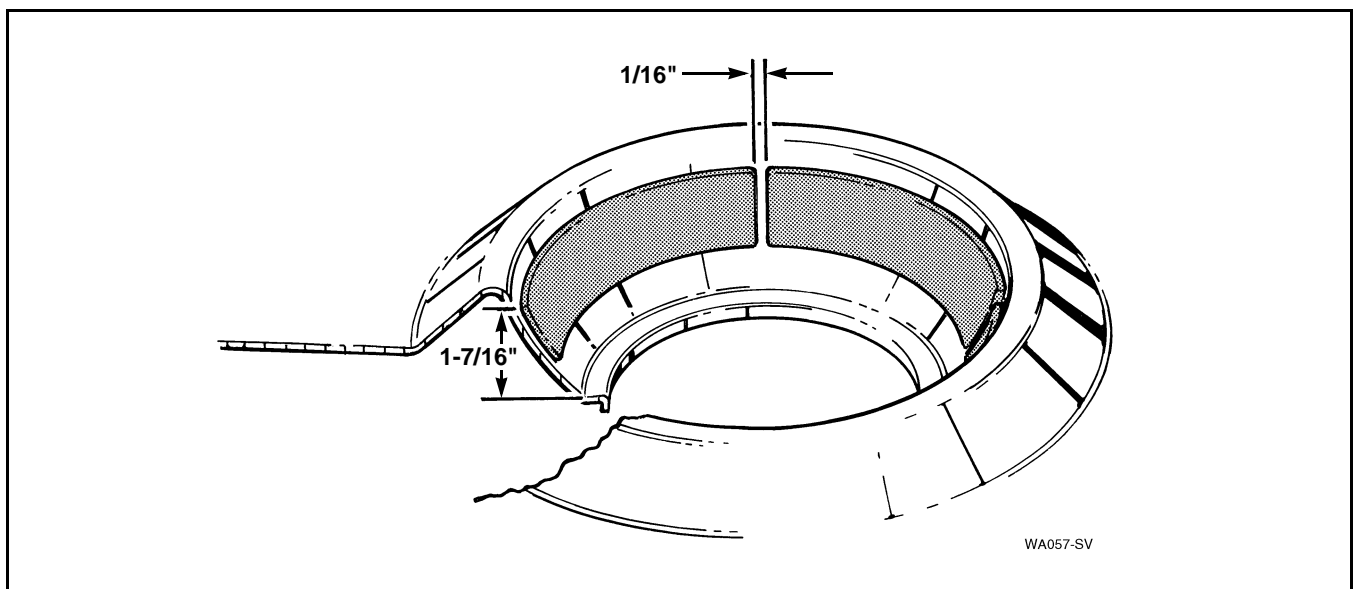

Figure 52
- b. Carefully align and apply the new snubber pad (with fluffed side up) to the base dome so they are equally spaced. Refer to *Figure 52*.
**IMPORTANT: The top edge of the snubber pads should be 1-7/16 inches from the lower part of the dome with a distance of 1/16 inch between the pads. Refer to *Figure 52*.**